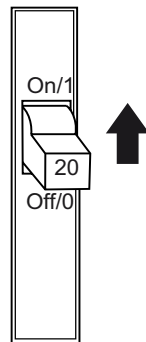

Figure 49. GFCI Circuit Breaker
2. Place a GFCI circuit breaker (Figure 49) in the **ON** position.